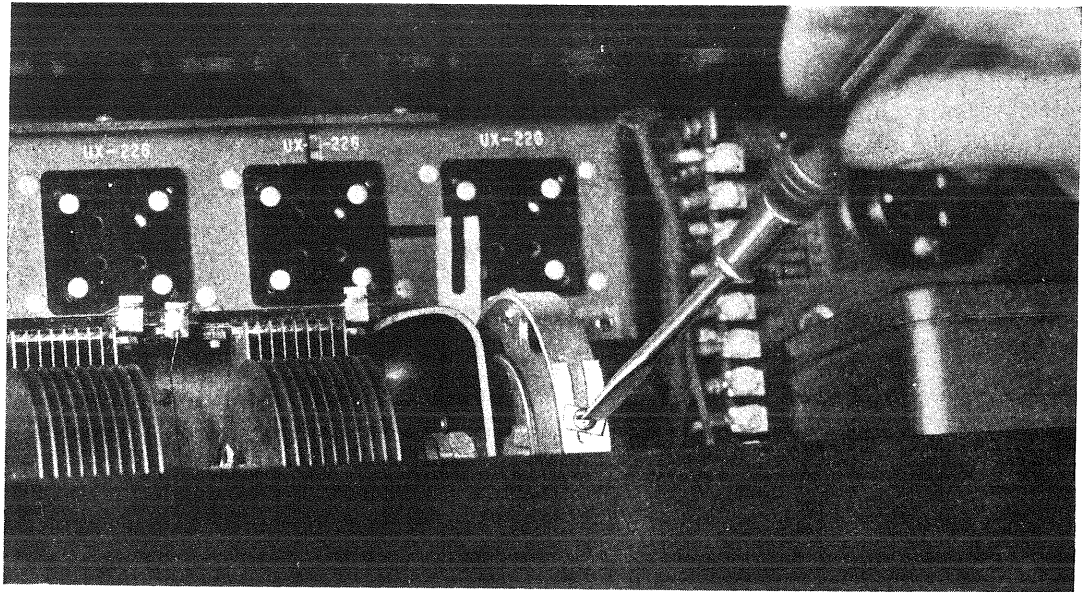

Figure 24—Method used in replacing dial scales.
3. Remove screws, washer and nuts that hold dial in place. (Figure 24.)
(10) REPLACING POWER CABLE